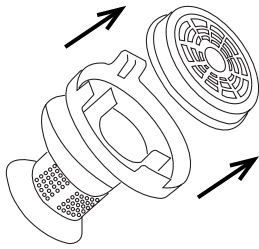

Fig 10
- At the bottom of the brush you have to press the button to unpin the brush. (Fig.10).